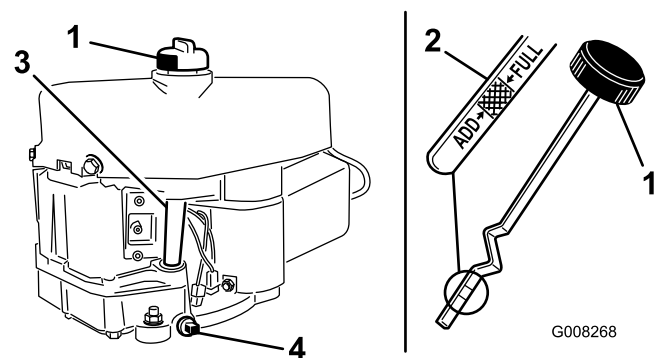

Figure 24
- Clean around the dipstick (Figure 24) so that dirt cannot fall into the filler hole and damage the engine.
- Unscrew the dipstick and wipe the metal end clean (Figure 24).
- Screw the dipstick fully onto the filler tube (Figure 24).
- Remove the drain plug to allow the oil to drain (Figure 24).
11. Clean around the dipstick and unscrew the cap (Figure 24).
12. Slowly pour approximately 80% of the engine oil into the filler tube (Figure 24).